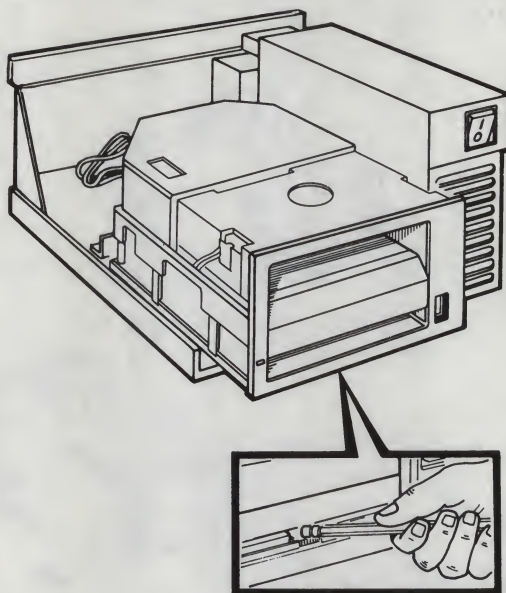

Figure 4-3. Sliding the Tape Drive Forward
4. Press the latch with a pencil and slide the tape drive forward (Figure 4-3).